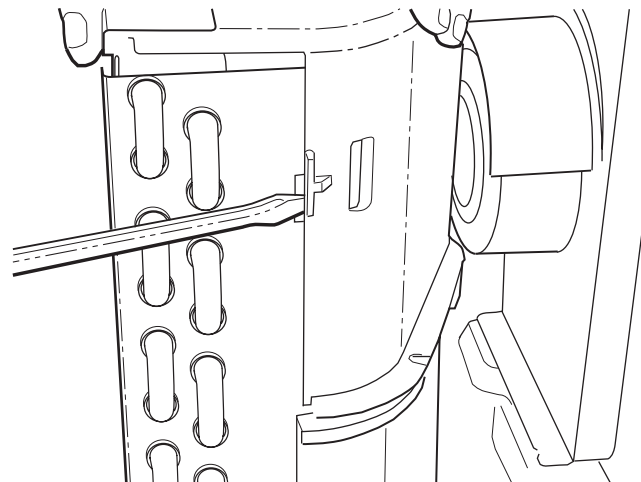

FIGURE 14 — PRYING CONDENSER ORIFICE AWAY FROM TUBE SHEET
- b. Using a flat head screwdriver, gently pry the top half of the orifice from the tube sheets. See Figure 14.
- a. Using a flat head screwdriver, gently pry the bottom half of the orifice from the tube sheets. See Figure 14.